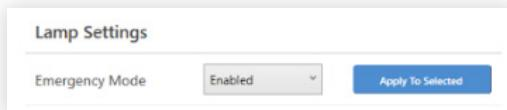

fig. 39
- 5 **Set Emergency Mode to Enabled and click Apply to Selected.** This takes place in the Lamp Settings pane (see fig. 39). Clicking **Apply to Selected** will automatically publish emergency mode to the selected lights.